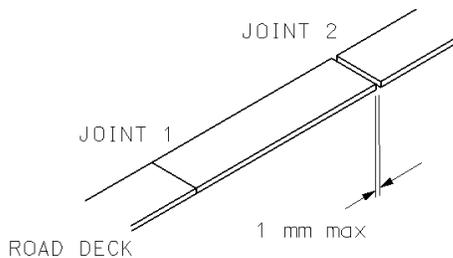

Figure 3: Joints Across Road Deck
- The solid road deck may have up to six joints running across the road deck. Gaps between joints may not exceed 1 mm (see Figure 3).